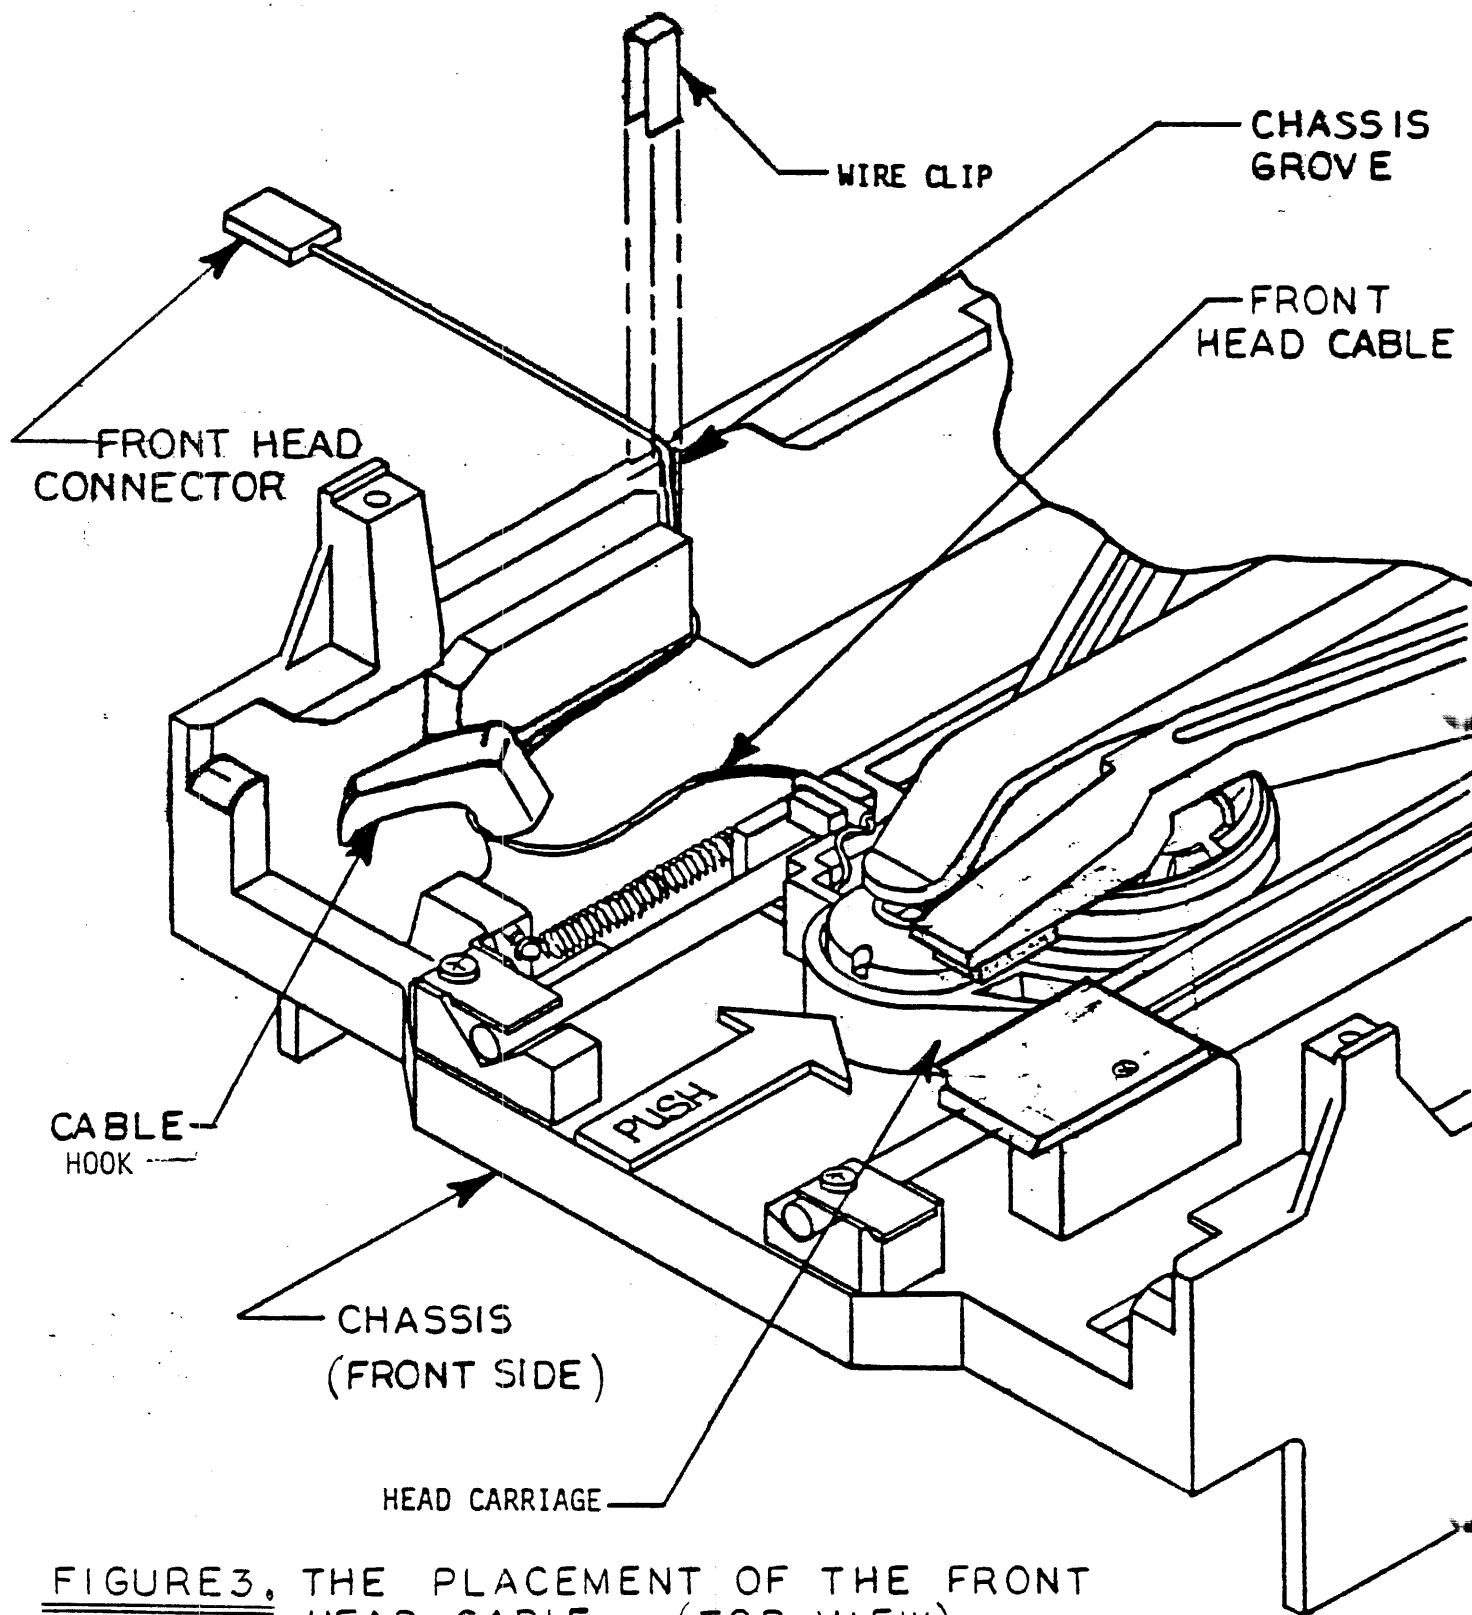

FIGURE 3. THE PLACEMENT OF THE FRONT HEAD CABLE. (TOP VIEW)
- 7.4.1 Push the head-carriage towards the rear of the of the chassis until it touches the end. (See Fig.3. Be sure the stepper motor lead screw is not in the way.) Gently place the front-head cable around the cable hook and up to the groove on the chassis wall as shown in Fig. 3. Slide a wire clip halfway into the groove so that the cable is completely under the clip.